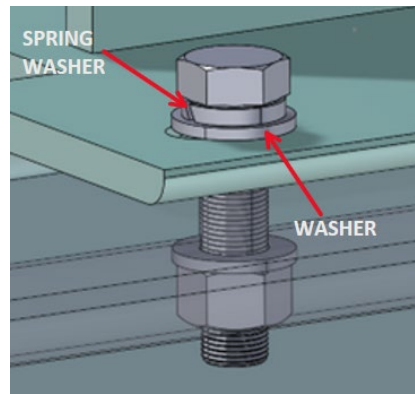

Figure 2: Bolting Configuration
4. Secure the frame to the conveyor channel using M20x65 bolts, flat washers, spring washer, and M20 hex nut. See Figures 2 to 4 for reference.